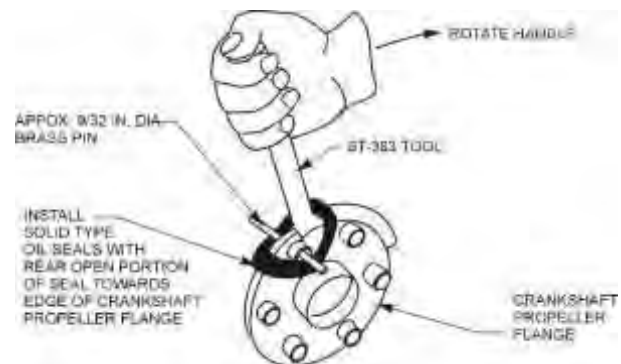

Figure 60
- (7) Put a brass pin approximately 9/32 in. diameter by 3 in. (7 cm) long through the crankshaft propeller flange bushing to hold both sides of the seal in place as shown in Figure 60.
- (9) Install the Crankshaft Oil Seal Installation Tool ST-383 under the seal and over the edge of the crankshaft propeller flange as shown in Figure 60. Use even pressure with your hand, carefully turn the tool to force the oil seal over the crankshaft propeller flange and use care not to damage the seal.
- (10) Install the internal spring as follows:
- (11) Use ethyl alcohol and disposable wipes to clean the outer surface of the seal and the crankcase seal bore recess.